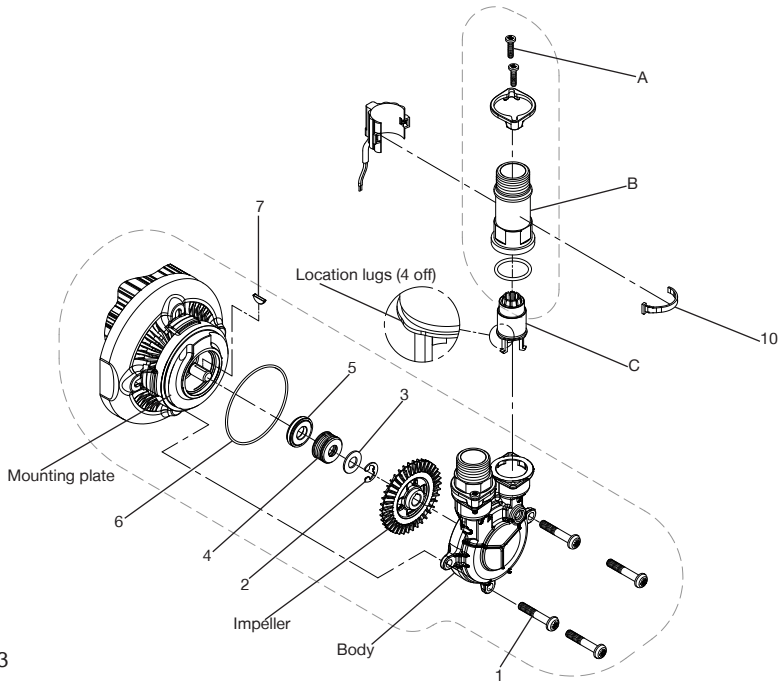
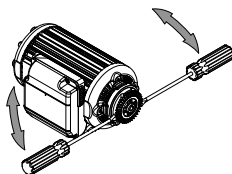

Fig. 3
Fig. 4
To disassemble the pump, the following items are required to be removed in the sequence detailed (Fig. 3).
- Remove screws (A) and lift flow switch body complete with reed switch (B) away and position next to pump ensuring no stress is placed on the cable.
- Magnet carrier and flow switch adaptor (C) may separate from flow switch body (B) during disassembly as shown.
- Remove 4 screws (item 1) and gently prise off the pump body – note 'O'-ring (item 6) between pump body and mounting plate.
- Slide impeller away from shaft and remove woodruff key (item 7) – (see note: Fig. 4).
- Remove circlip (item 2) and mechanical seal parts. (items 3 & 4).
- Remove Counterface (item 5) from its mounting plate location.
- Note: Other parts are supplied in this kit and can be used as shown in Fig. 3 if replacement required.
Difficulties may be experienced in the removal of the impeller. To overcome this, two screwdrivers can be used to gently lever the impeller away from the shaft as detailed (Fig. 4), ensuring equal pressure is applied to each side of the component to avoid bending the shaft.